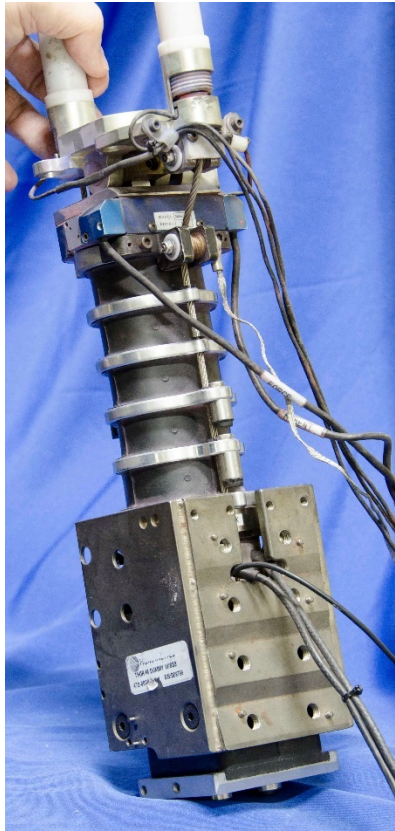

Figure 4-48. Routing wires for the lower neck load cell
- 4.2.5.2 Route the lower neck load cell wires out through the holes at the top of the Upper Thoracic Spine Weldment (Figure 4-48). Rib #1 and the accompanying rib stiffener must be removed prior to routing the wire.